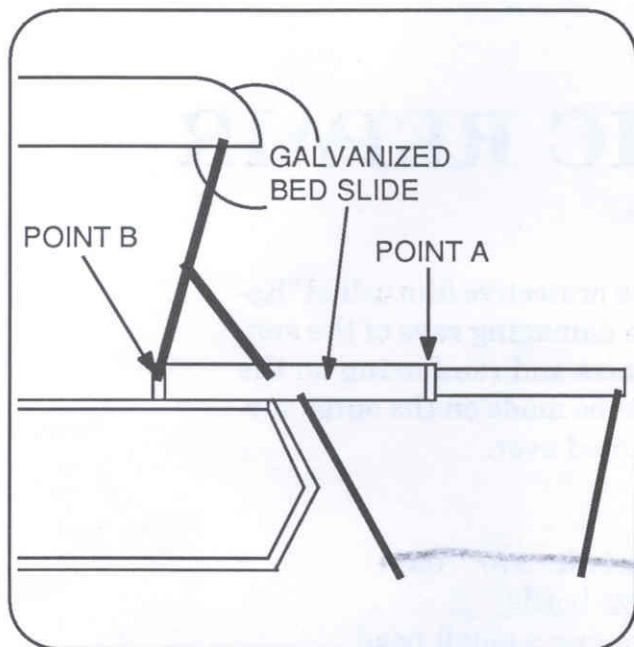
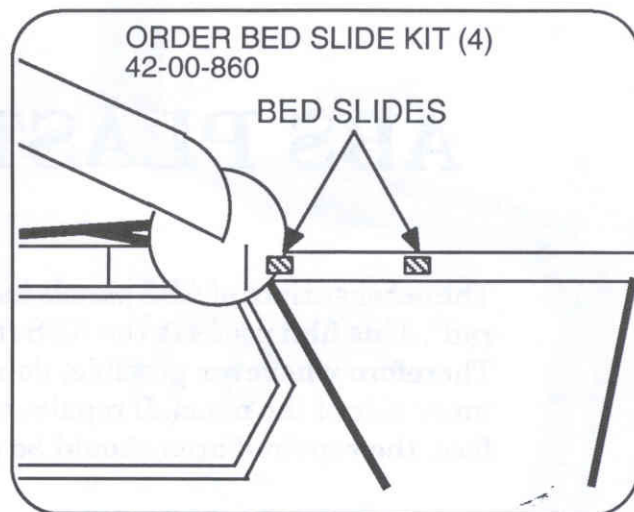

Figure 17. Replacing Bed Slides (1 of 2)
Figure 18. Replacing Bed Slides (2 of 2)
2. Drill out the two pop rivets holding the bed stop (point A, figure 17).
3. Using a 1/4" drill bit, drill out the rivet holding the road cover support bow to the galvanized bed slide (point B, figure 17).
2. With help to hold up the road cover, drill out the two pop rivets holding the bed stop on each side of trailer (point A, figure 17). Lower the road cover onto the body (figure 18) which will expose all four bed slides on that end.
1. Get the roof raised and install a "c" clamp on each bed track to keep the roof up (point B, figure 17).
2. Drill out the two rivets holding the bed stop. Remove the stop on both sides of bed (point A, figure 17).